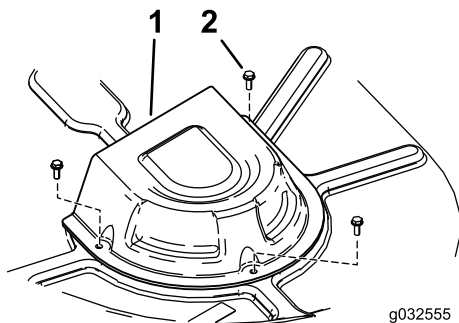

Figure 47
4. Remove the pulley covers (Figure 47).